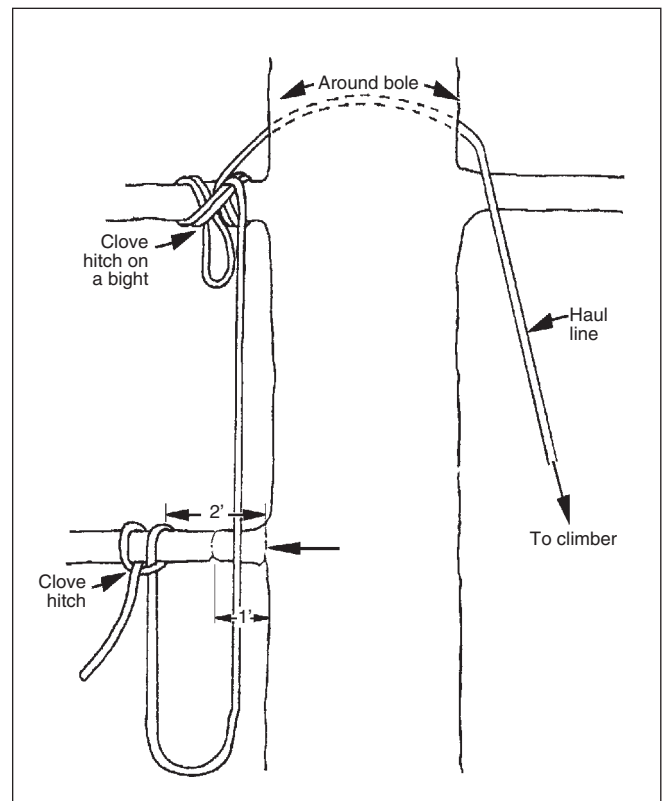

Figure 9a—Using a haul line to lower pruned branches.
3. Allow the branch to free fall to the ground. If necessary, lower the branch with a haul line (figure 9a). Follow these procedures when using a haul line: